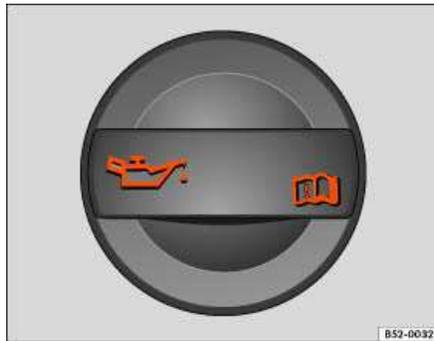

Fig. 166 In the engine compartment: Engine oil filler cap.
4. Find the oil filler opening and the dipstick. You can identify these by the 🛢️ symbol on the engine oil filler cap ⇒ fig. 166 and the colored handle on the dipstick. If you are not sure where the cap and the
- (A): **Do not** add any oil ⇒ . Continue with step 15.
- (B): Oil may be added (about 1 pint / 0.5 liter). Continue with step 8 or step 15.
- (C): **You must** add oil (about 1 quart / 1.0 liter). Continue with step 8.
9. Remove the cap on the engine oil filler opening ⇒ fig. 166.